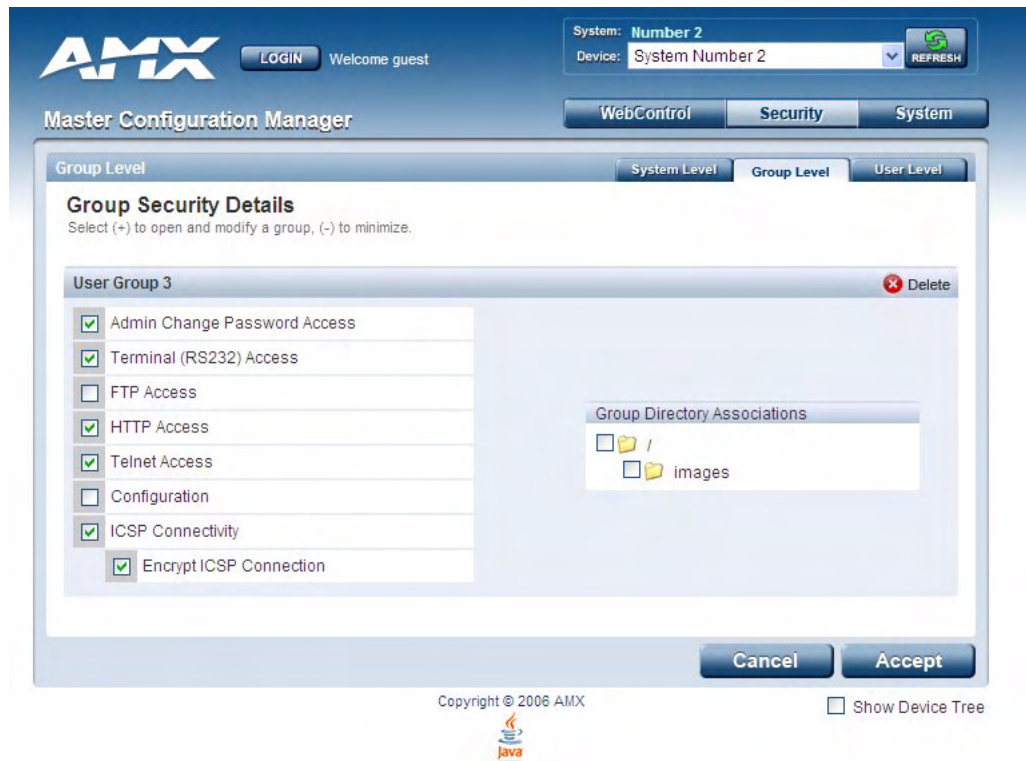

FIG. 24 Group Security Details Page (Edit Group Security Details)
2. Click the **Edit** button to open the *Group Security Details* page for the selected group (FIG. 24).